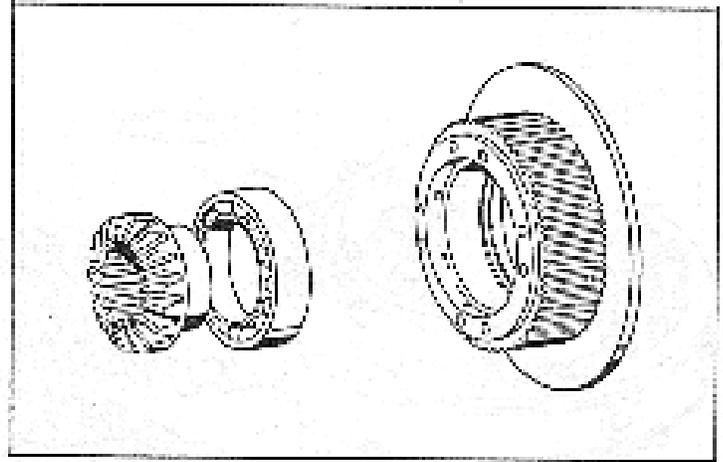

Figure 29. Clutch Flange, Roller Bearing and Bevel Gear.
8. Press ball bearing into forward clutch flange. Press bevel gear into ball bearing. See fig. 29
9. Likewise press the other ball bearing into reverse clutch flange (see fig.29). Then press bevel gear into ball bearing. Check that ball bearings on both clutch flanges are well seated.